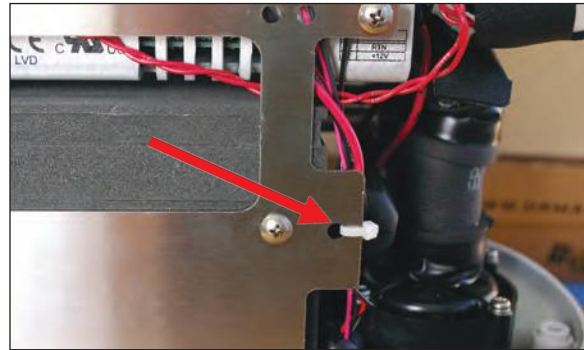

Figure 75 - Step 7 Secure wires to bracket
- Secure the fan and pump wires to the front thermoelectric subassembly bracket with a wire tie (Figure 75). Use the wire cutters to remove the excess wire tie. Slide the EMI suppressor down to the wire tie.